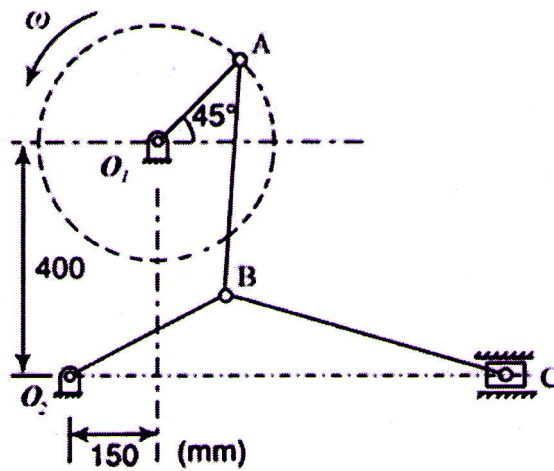

Fig. 2
- 12 In the toggle mechanism shown in Fig. 2, The crank OA rotates at a uniform speed of 200 rpm counter-clockwise (ccw). For the given configuration, $O_1A = 200$ mm, $AB = 400$ mm, $O_2B = 300$ mm, and $BC = 500$ mm. Determine (a) velocity of slider C (b) angular velocities of links AB, O_2B , and BC, (c) rubbing velocities on the pins of 25 mm diameter at A and C. (c) Torque required at crank O_1A for a force of 1000N at C.